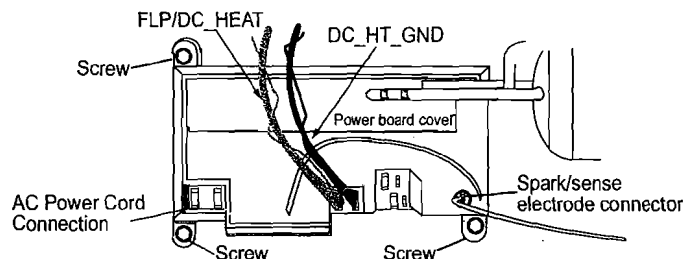

Figure 9. AC power, flapper heater and electrode connections.
- Unplug the AC cord from power board. See Figure 9 for location.
- Disconnect flapper heater power supply wires from terminals FLP/DC_HEAT and DC_HT_GND. See Figure 9 for connector location.
- Remove power board cover. Loosen the cover's three 8-32 x 1 inch screws using a 1/4 inch nut driver. See Figure 9 for screws' location.